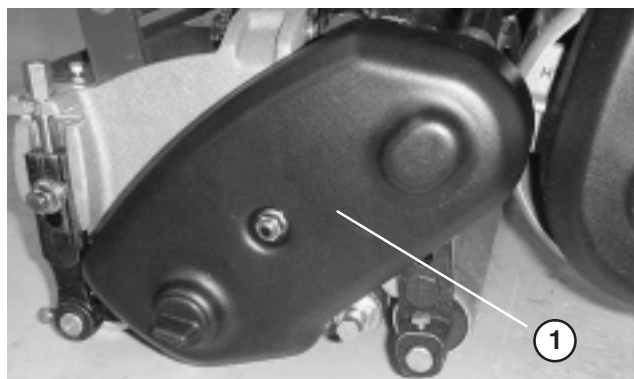

Figure 36
1. Remove the belt cover mounting fasteners and belt cover to expose belt (Fig. 36).